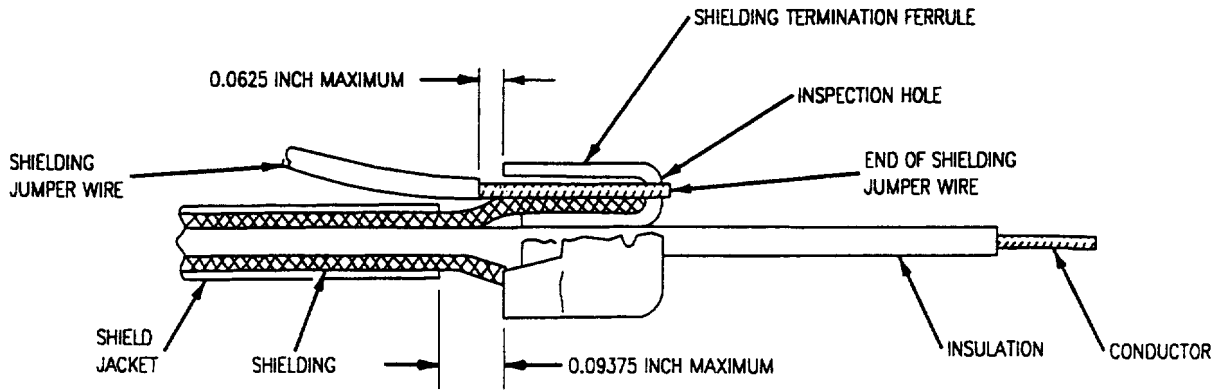

Figure 26 . Installing Shielding Termination Ferrule
- d. Insert shielding jumper wire into shielding termination ferrule so that end of jumper wire is visible through inspection hole of ferrule. See Figure 26..